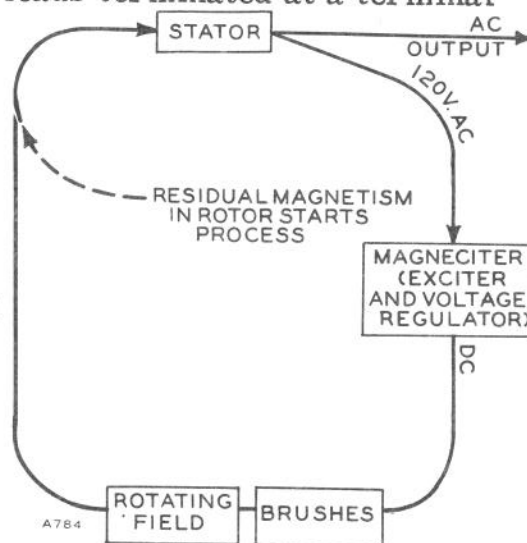

FIG. 4-1. SCHEMATIC ALTERNATOR AND EXCITER
GENERATOR: The generator is a synchronous four-pole, revolving field, externally-excited (generator mounted static exciter) type. The revolving field is coupled to the engine and rotates at engine speed. Field excitation voltage (DC) is supplied and regulated by the static exciter through slip rings and brushes to the field coils (Fig. 4-1). The alternating current output is tapped from the stator windings with the output leads terminated at a terminal board on the output box.